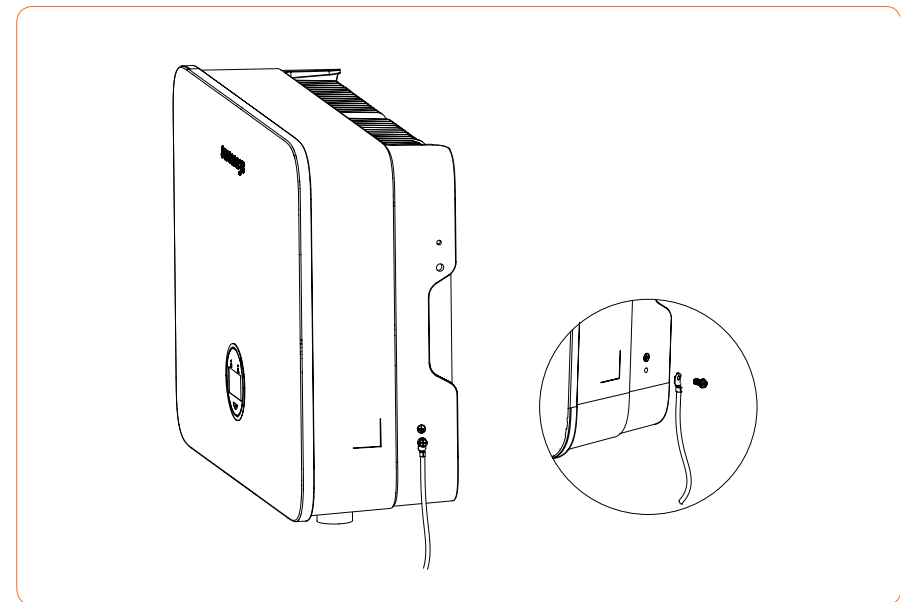

Figure 4-13 Grounding terminal connection
- ① The external grounding terminal is located in the lower right side of the inverter.
- ② Fix the grounding terminal to the PE wire with a proper tool and lock the grounding terminal to the grounding hole in the lower right side of the inverter, as shown in Figure 4-13.